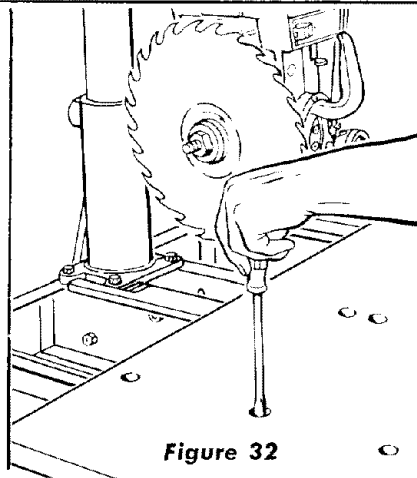

Figure 32
- (3) Recheck . . . and, if correct, tighten all table holddown screws securely. (See figure 32.)